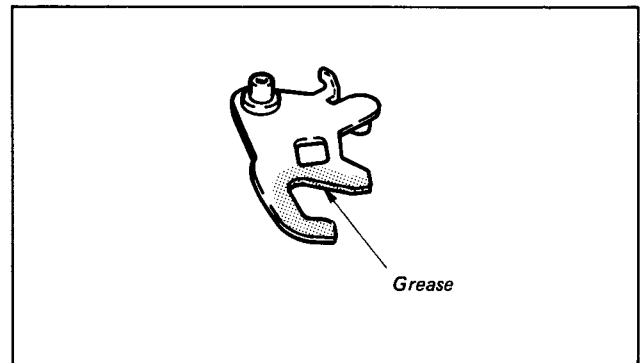

Fig. 1-37
- 1) Oil half a drop of oil on the spindle (planetary roller spindle) of the L-SW assembly ⑨.
- 2) Remount the L-SW assembly ⑨ and tighten two screws ⑧.
- 3) Reconnect the connector ⑦.
- 4) Operate the mode selector and check that the L-SW assembly ⑨ rotates.
- 5) Oil half a drop of oil on the spindle ⑩.
- 6) Grease the drive changer assembly ⑥. (See Fig. 1-37.)